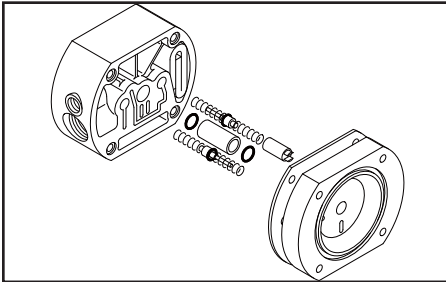

Figure 27-2
- Draw out the throat bearing (See Figure 27-2).